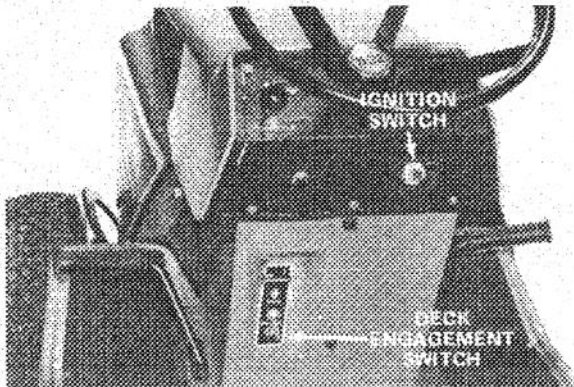
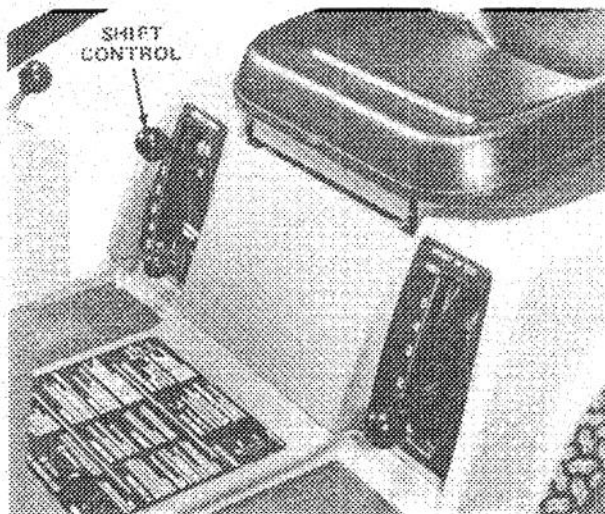

Figure 50
Figure 51
2. Move deck engagement switch (Fig. 50) to the ENGAGE position. Rotate the ignition key to START. Engine should not crank. If engine cranks, the interlock system is malfunctioning and it must be repaired by an Authorized TORO Service Dealer. If engine does not crank, proceed to step 3.
3. Move deck engagement switch to DISENGAGE position (Fig. 59), push clutch in and place shift control into one of the gear selections (Fig. 51). Rotate the ignition key to START. Engine should not crank; but if it does, the interlock system is
4. Move shift control (Fig. 51) into neutral and deck engagement switch (Fig. 50) to DISENGAGE position. Engage the parking brake to prevent movement of the tractor. Rotate ignition key to START position and start engine. Place the deck engagement switch in ENGAGE position and carefully raise off the seat: the engine should stop running. If engine does not stop running, shut engine off and have interlock system repaired by an Authorized TORO Service Dealer. If engine shuts off when you raised off seat, the interlock system is functioning correctly.